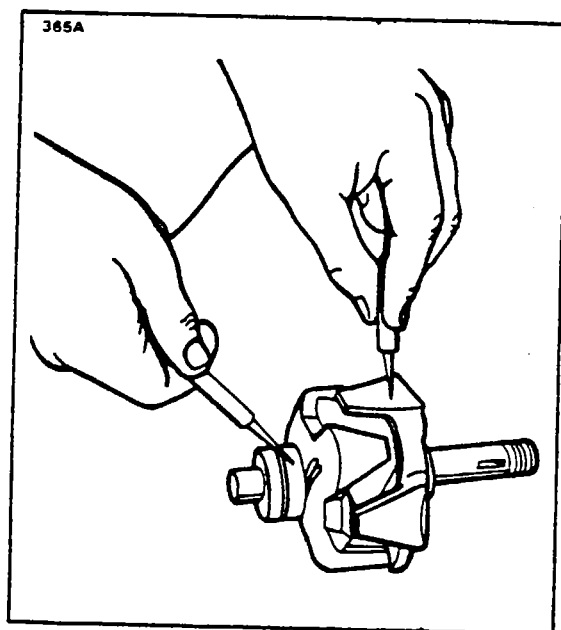
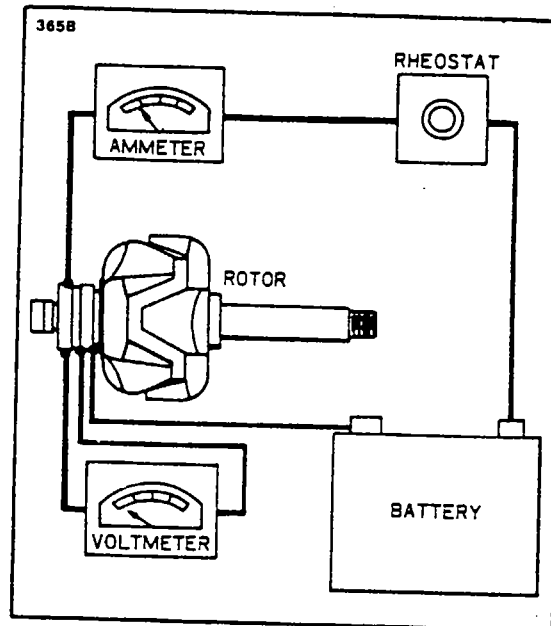

Figure 11-22. Testing Rotor For Ground
Figure 11-23. Testing Rotor For Shorts
a. Rotor: The rotor should be tested for grounded or shorted windings. The ground test can be made with test probes, connected in series with a 110-volt test lamp, an ohmmeter or any type of continuity tester. (Refer to Figure 11-22.) There must not be any continuity between the slip rings and the rotor shaft or poles. To test for shorted turns in the rotor winding, connect a voltmeter, ammeter and rheostat as shown in Figure 11-23. or use an ohmmeter. Rotor current draw and resistance are listed in the Alternator Service Test Specifications paragraph. Excessive current draw or a low ohmmeter reading indicates shorted windings. No current draw or an infinite ohmmeter reading would indicate an open winding.